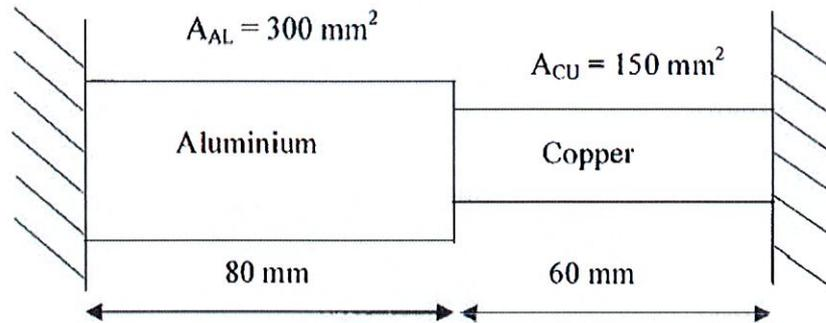

Figure 2 (c) / Rajah 2 (c)
- CLO2 (c) A series of bars consisting of copper and aluminium bars are fixed in between two rigid walls as in Figure 2 (c). Determine the thermal stress induced in each bar if the temperature is increased by 80 °C. Calculate